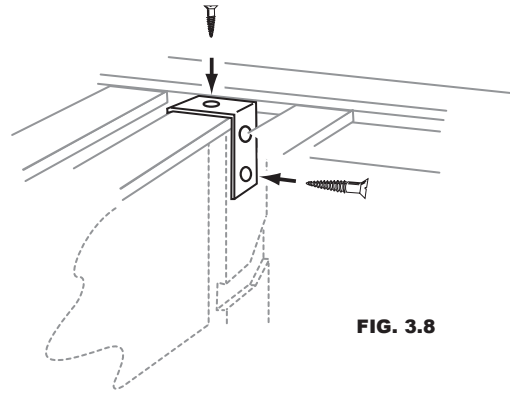

FIG. 3.8
9. Secure Vertical Clips to Tower using #6 3/4" screws into the side and #4 3/4" screw into the top (Fig. 3.8)